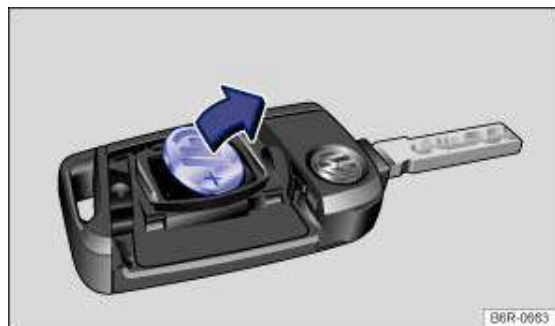

Fig. 25 Vehicle key: removing the battery
- Using a suitable thin object, lever the battery out of the battery compartment → Fig. 25.
- Insert the new battery as shown → Fig. 25 and push it into the battery compartment against the direction of the arrow → .